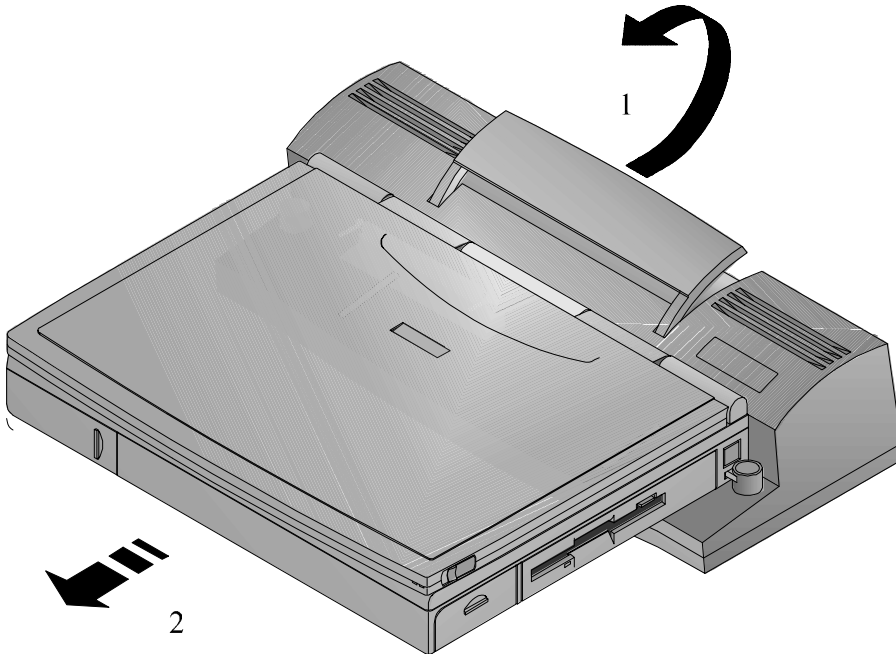

Figure 6-16: Removing the Notebook from the Minidock
1. Raise the Release latch in the direction of the arrow shown. (Figure 6-16, step 1)
2. Slide the notebook away from the Minidock (Figure 6-16, step 2)